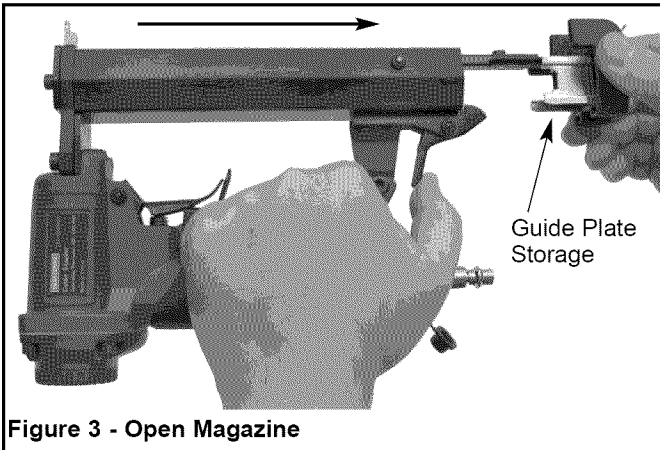

Figure 3 - Open Magazine
- Depress latch and slide magazine cover open (see Figure 3).